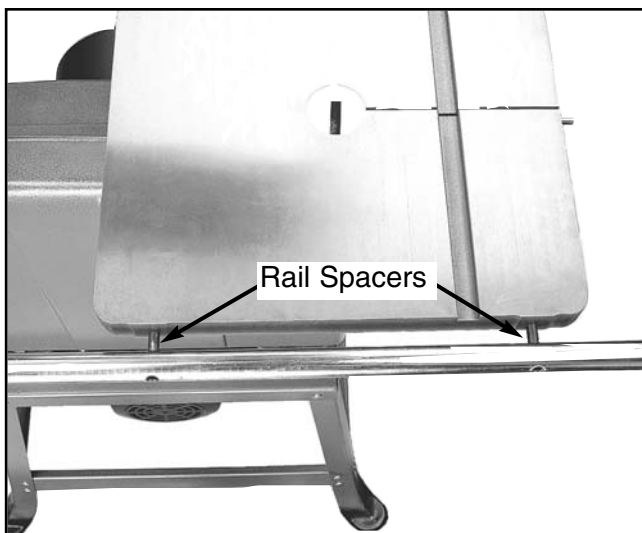

Figure 13. Fence rails properly secured to table.
1. Secure the fence rails to the table with the four (4) 1/4"-20 x 1 1/4" cap screws and spacers provided (**Figure 13**).